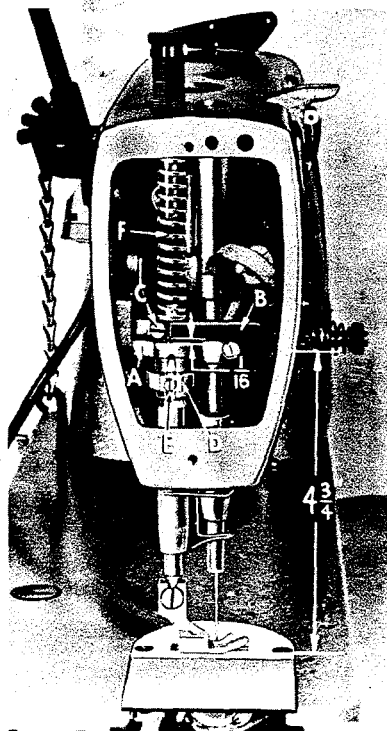
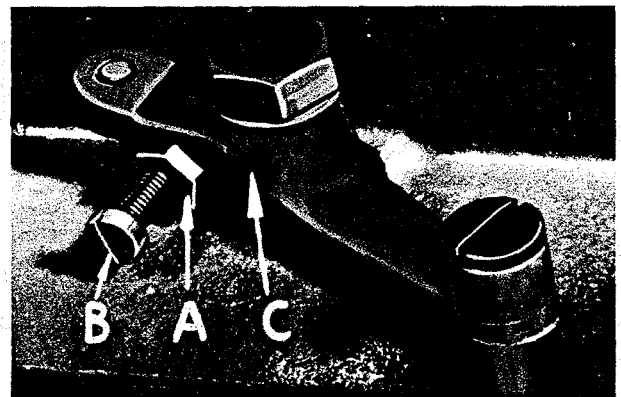

Fig. 16
Fig. 15
The presser bar connection (A, Fig. 16) should be set so that it is about $\frac{1}{16}$ inch below the presser bar guide (B). This is accomplished by tipping the machine back against the rest pin, loosening the lock nut (A, Fig. 15), and relocating the stop screw (B) on the lifter lever bell crank (C). By turning the stop screw to the right or left, the proper setting of the presser bar connection is accomplished. Tighten the lock nut (A) to lock the stop screw in place.
When locating the presser bar guide (B, Fig. 16), the presser foot must rest directly against the throat plate with the feed dog in its lowest position. The guide is set properly when there is a 4 3/4 inch space between the thread take-up wire and the top of the throat plate (Fig. 16)
The tension release should be set so that it will not release when sewing over seams or when the presser foot is raised for back tacking. The adjustment of the tension release cam (D, Fig. 16) and the in and out position of the tension assembly are required for proper operation.
The tension release cam (D, Fig. 16) should now be positioned by loosening set screw (E, Fig. 16) and then raising or lowering the cam to suit the sewing conditions, the average release point being between 1/4 to 5/16 inch of presser foot lift above the throat plate. Tighten tension release cam set screw securely.